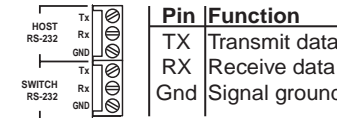

Figure 2-7 — RS-232 connector
- 2 **Host RS-232 port** — If desired, connect a host computer or control system to this 3-pole, 3.5 mm, RS-232 connector (figure 2-7).
- 3 **Switcher RS-232 port** — If desired, connect a cable between this 3-pole, 3.5 mm, RS-232 connector and a matrix switcher (figure 2-7).